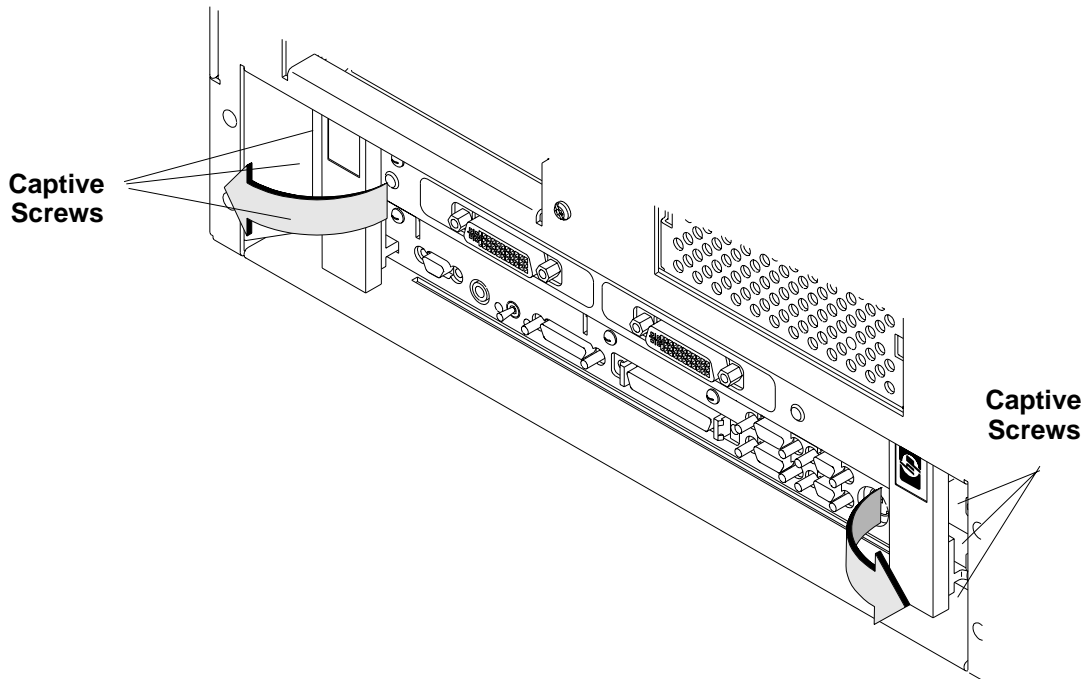

Figure 4-1
- 3 Using a flat-tipped screwdriver, unscrew the captive screws that secure the board computer in the chassis, as shown in Figure 4-1.